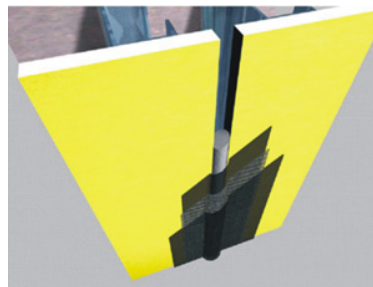

Figure 14
- c. Using a brush or 3/4 in (19 mm) nap roller, apply a liberal coat of AquaFlash Liquid material to the backer rod and adjacent substrate surface to the width of the AquaFlash Mesh – Figure 14.